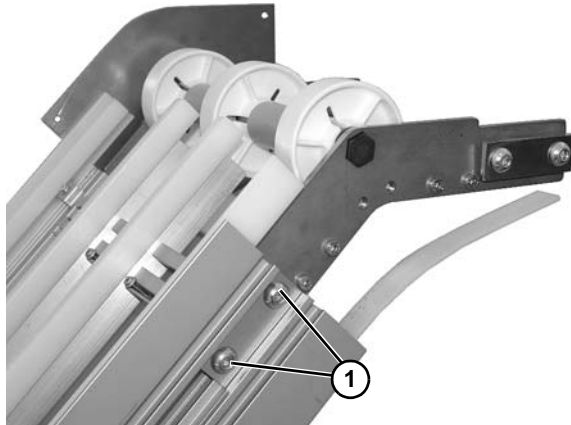

Figure 111
8. Loosen two socket head screws (**Figure 111, item 1**), holding upper knuckle to frame. Repeat on other side.